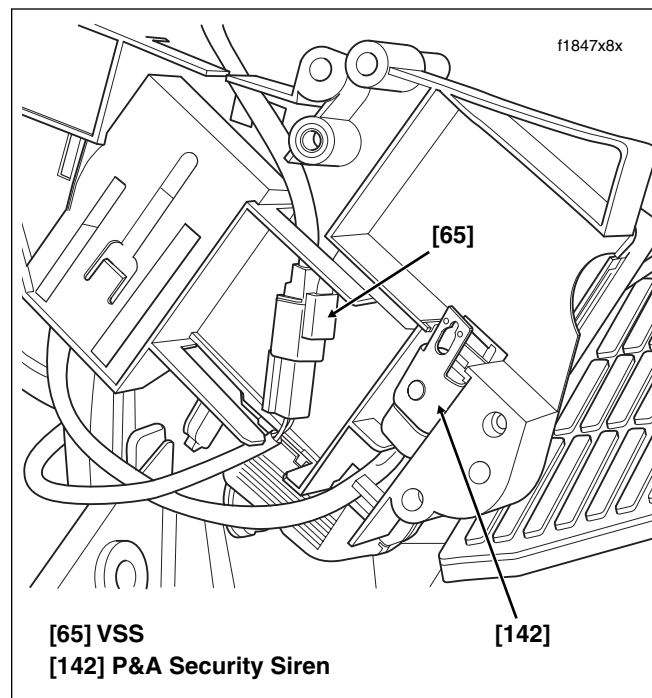

Figure 9-4. Electrical Bracket (Inboard Side)
3. Remove two flange nuts to release electrical bracket from studs on side of battery box. See Figure 9-4.
1. Install security siren connector [142] and VSS connector [65] on inboard side of electrical bracket as shown in Figure 9-4. Be sure that conduit and cables are properly routed or wires may be pinched during installation.
7. Remove two flange nuts to release electrical bracket from studs on side of battery box. See Figure 9-4.